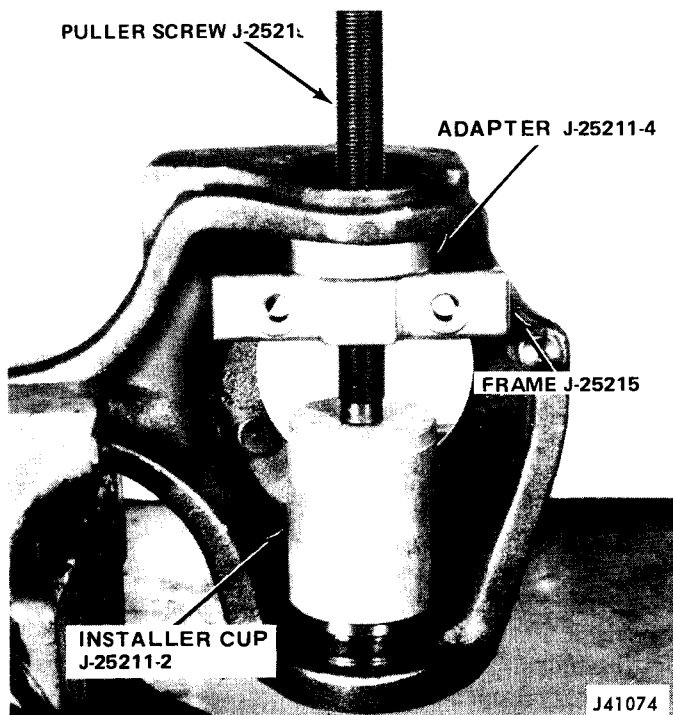

Fig. 10-9 Lower Ball Stud Installation
(5) Invert knuckle in vise. Position lower ball stud in knuckle. Use Installer Cup J-25211-2, Adapter J-25211-4, and Puller J-25215 screw and nut (fig. 10-9) to press in the lower stud. Install ball stud snap ring.